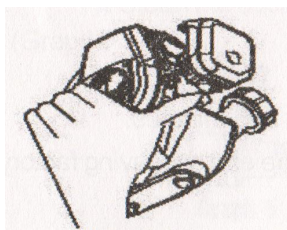

Fig: 4
3. Turn on the petrol tap until the petrol flows out of the clear plastic pipe. (Fig 4)